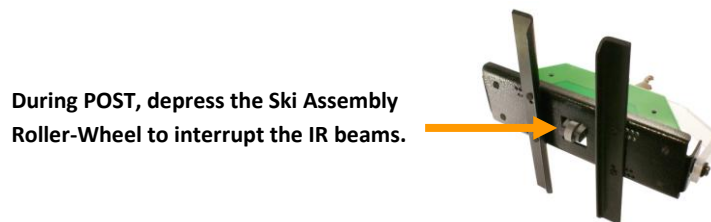

Figure 13
4. To fully check the 2 infrared beams (IR1, IR2), apply pressure on the Ski Assembly Roller-Wheel (See Figure 13) at the beginning of the long tone. This action will interrupt the IR beams.